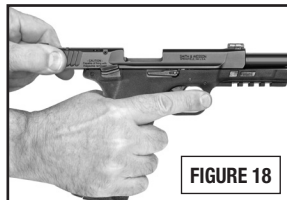

FIGURE 18
- Pull the slide to the rear (FIGURE 18) and release it, allowing it to carry fully forward. This strips a cartridge from the magazine and seats it in the chamber of the barrel.